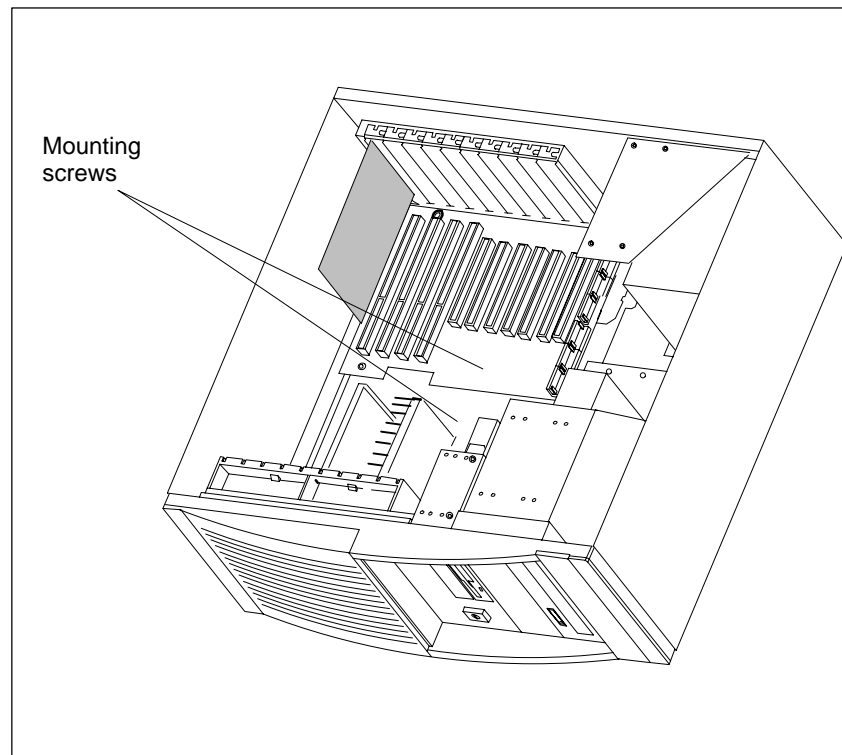

Figure 1-7 Removing the Floppy Disk Drive
- Release the two screws at the top of the drive support (see arrows in Figure 1-7) and pull out the drive from the back.